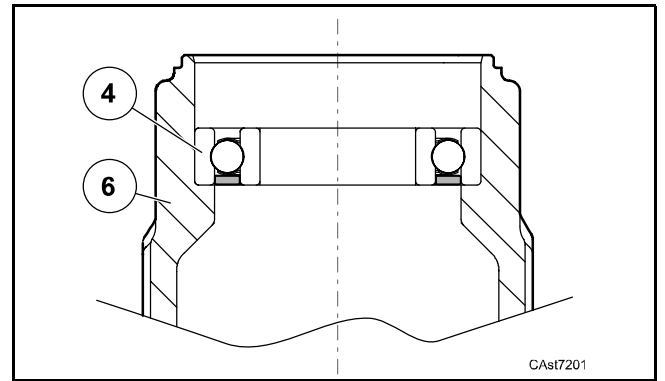

fig. 1
2. Assemble the bearing (4) to the trumpet (6) by using the special tool CA715825.
**See:** E.1 (CA643601 final drive) and fig.1